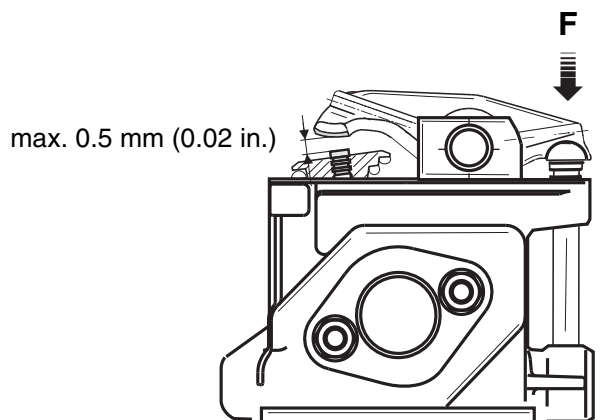
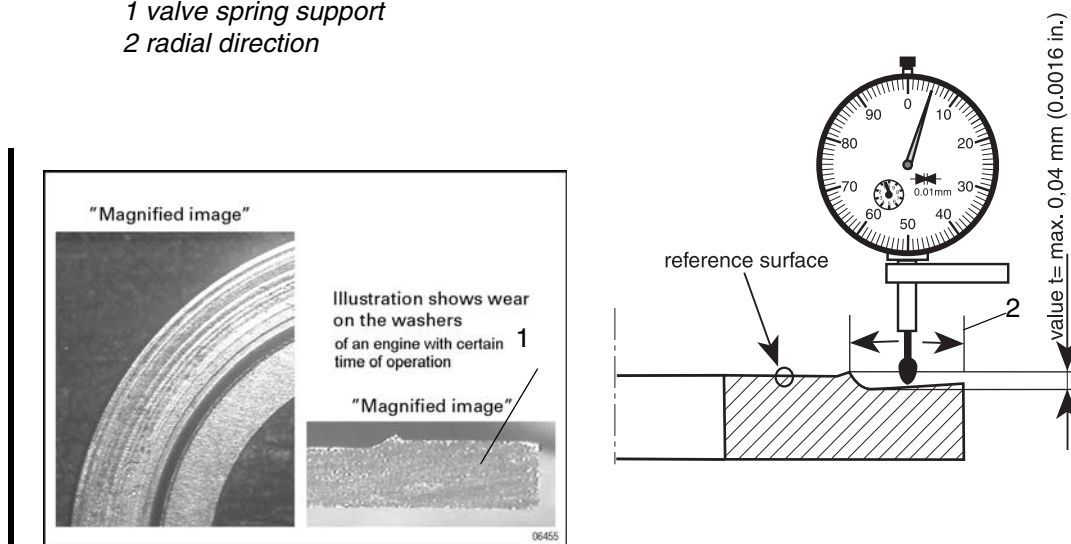

Fig. 5
Fig. 6
See Fig. 5 and Fig. 6.
1	<p>Inspect valve spring support (1). Measure the wear referring to the reference surface (inner area of valve spring support) in radial direction (2) to outer side with a dial gauge. Value $t = \max. 0.04 \text{ mm (0.0016in.)}$. See Fig. 6. An exceeding of $\max. 0.04 \text{ mm (0.0016 in.)}$ is not acceptable.</p> <p>NOTE: The valve spring support indicates a possible malfunction of valve train caused by incorrectly or insufficiently purged hydraulic valve tappets. At standard conditions no wear is visible even after a long time of operation. If the visual inspection shows some wear on the valve spring support surface, measure the actual wear with a dial gauge.</p>